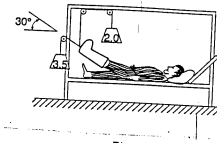

Fig 2
- i) Fig. 2 shows some traction weights (loads in Kg) being applied to a patient's leg